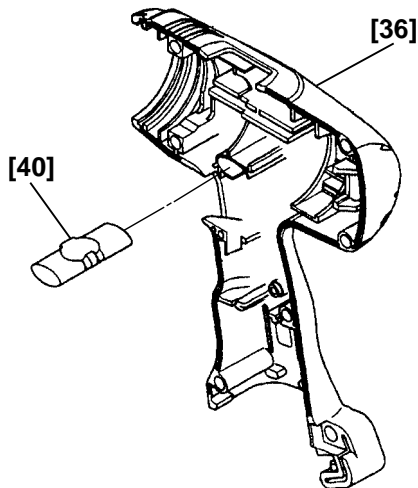

Fig. 15
(4) Installation of the assembly reassembled in step (3) into Housing (A). (B) Set [36]
(a) Install the Pushing Button [40] into Housing (B) [36]. (See Fig. 15.)